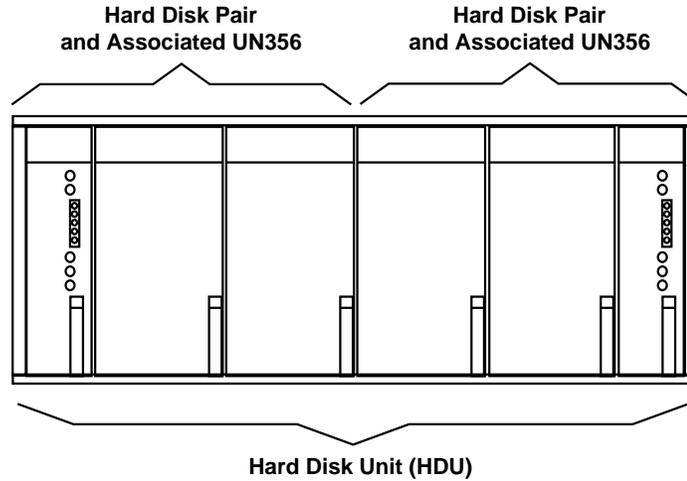
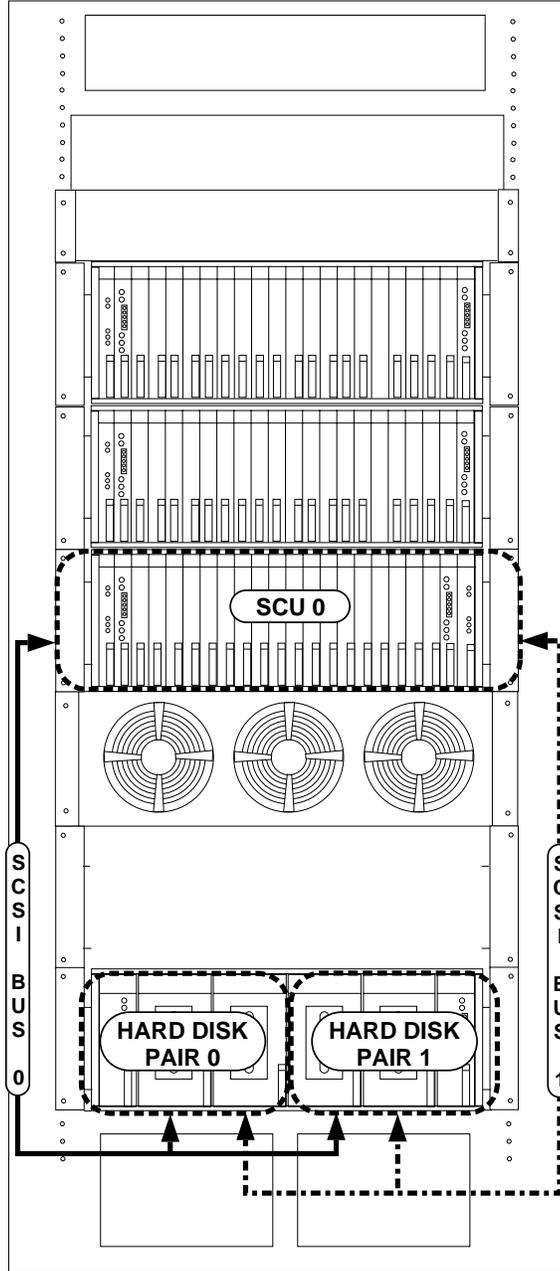

Figure 2. Hard Disk Pairs and Associated UN356 Circuit Packs
Figure 3. Hard Disk to SCU Connections in the SCC Cabinet
3. Remove the UN356 circuit pack that has the fuse alarm and both of the hard disk circuit packs associated with that UN356 circuit pack. (See Figure 2 and DLP-503.) Record the location from which each circuit pack is removed. Hard disk pairs, their associated Service Circuit Units (SCUs), and Small Computer System Interface (SCSI) bus connections are shown in Figures 3 (Service Circuit Controller [SCC] frame) and 4 (SCU frame).